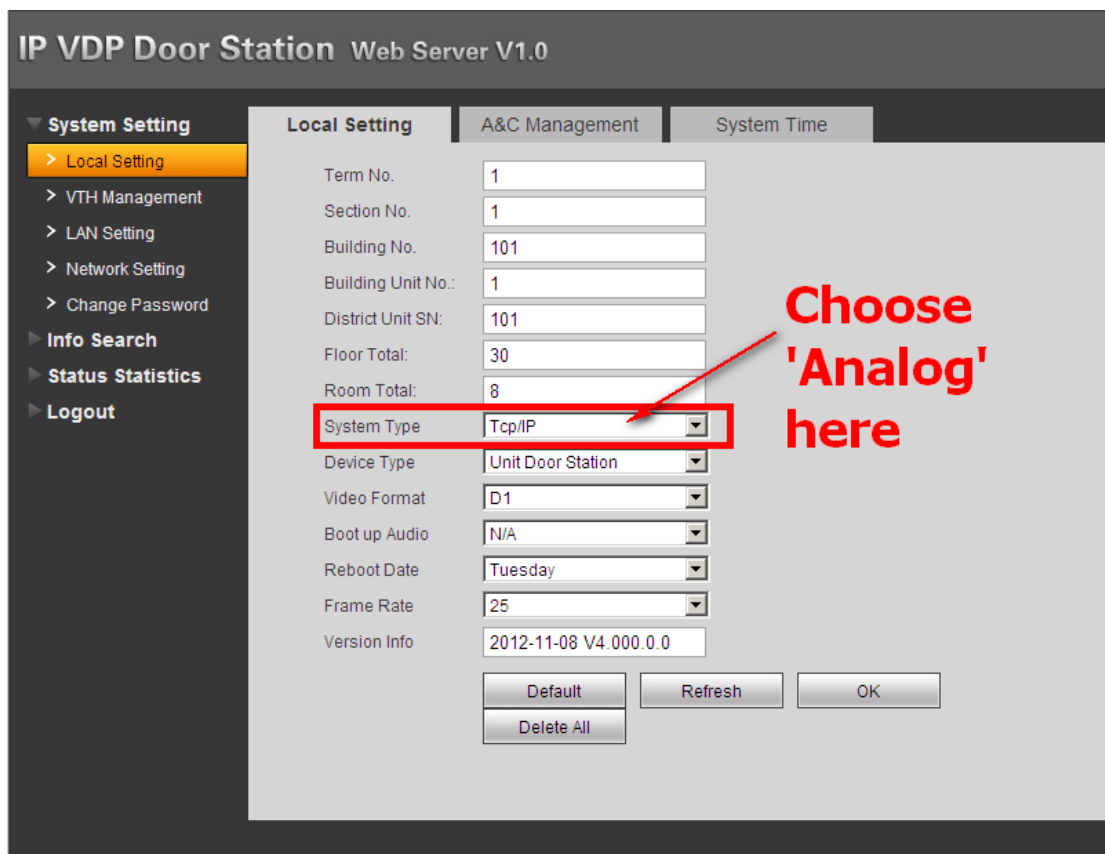

Figure 2-7
Step 1 Log in VTO's web interface, check System Setting>Local Setting, choose System Type into Analog, Video Format into D1, see Figure 2-7.